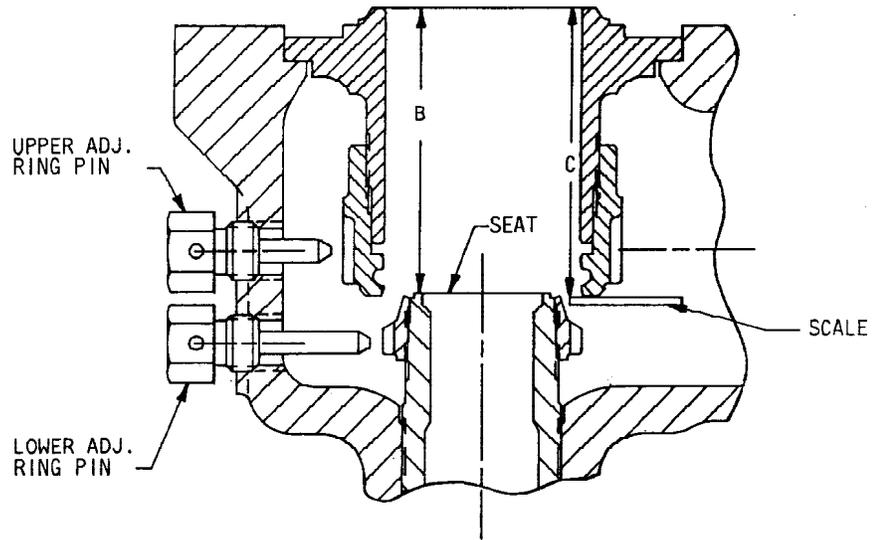
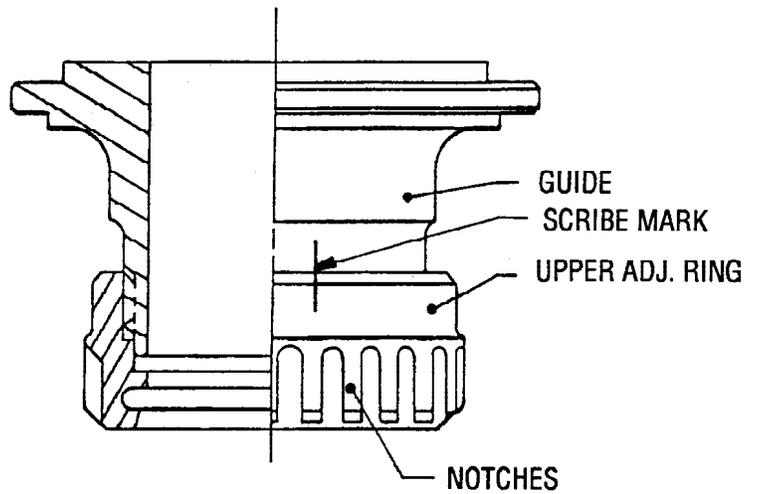

FIGURE 29
FIGURE 30
6. Install the adjusting ring and guide assembly into the valve base such that the scribe marks will be visible from the valve outlet or an inspection port. Place a scale or other suitable thin flat metal object on the lower face of the upper adjusting ring and measure the overall length of the upper ring and guide assembly. Adjust the upper ring to the Dimension C (see Figure 29, below) recorded in Step 12 of Section XI.B., "Disassembly". Observe the marks made on the ring and guide and adjust the ring to align the marks (see Figure 30, below). Recheck the overall length of the adjusting ring and guide assembly to assure that the upper ring is in its original position.